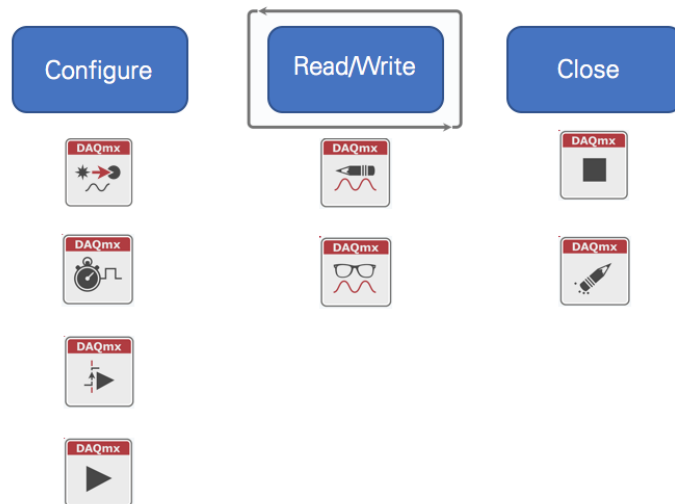

Figure 2-7: The most common VIs for each section are shown above.
6. Compare the example program block diagram to the VIs shown in Figure 2-7. All DAQmx programs will follow the same configure >> Read/Write >> Close prototype, using some or all of these functions.